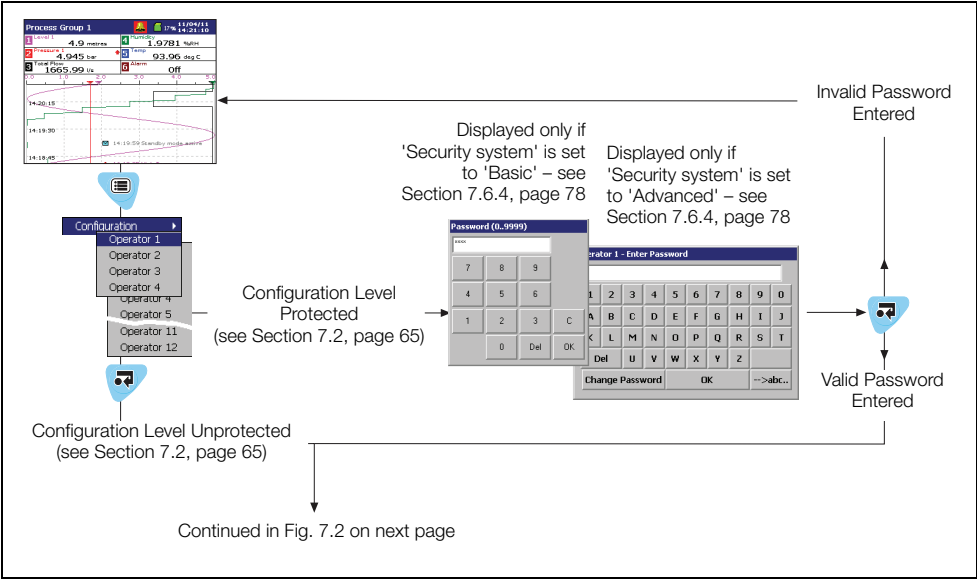

Fig. 7.1 Accessing the Configuration Level
The Configuration level cannot be accessed until the correct password has been entered – see Figs. 7.1 and 7.2, pages 66 and 67 respectively.
- 1. Access the Configuration Level – see Figs. 7.1 and 7.2, pages 66 and 67 respectively.
- 2. Access the Configuration Level – see Figs. 7.1 and 7.2, pages 66 and 67 respectively.